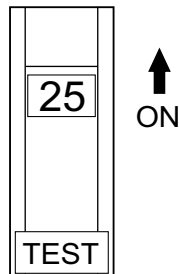

Figure 38. AC Circuit Breaker ON (GFCI Test)
3. Place the AC circuit breaker (Figure 38) in the **ON** position.